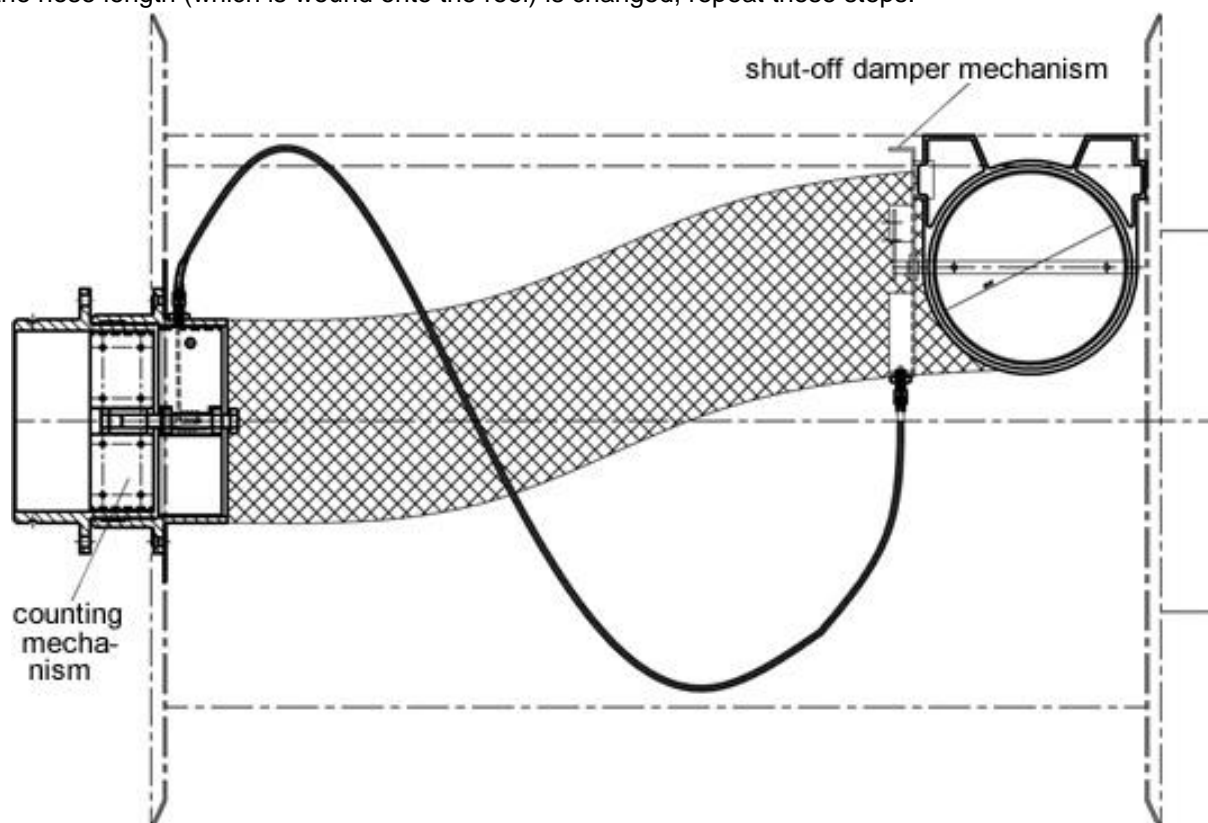
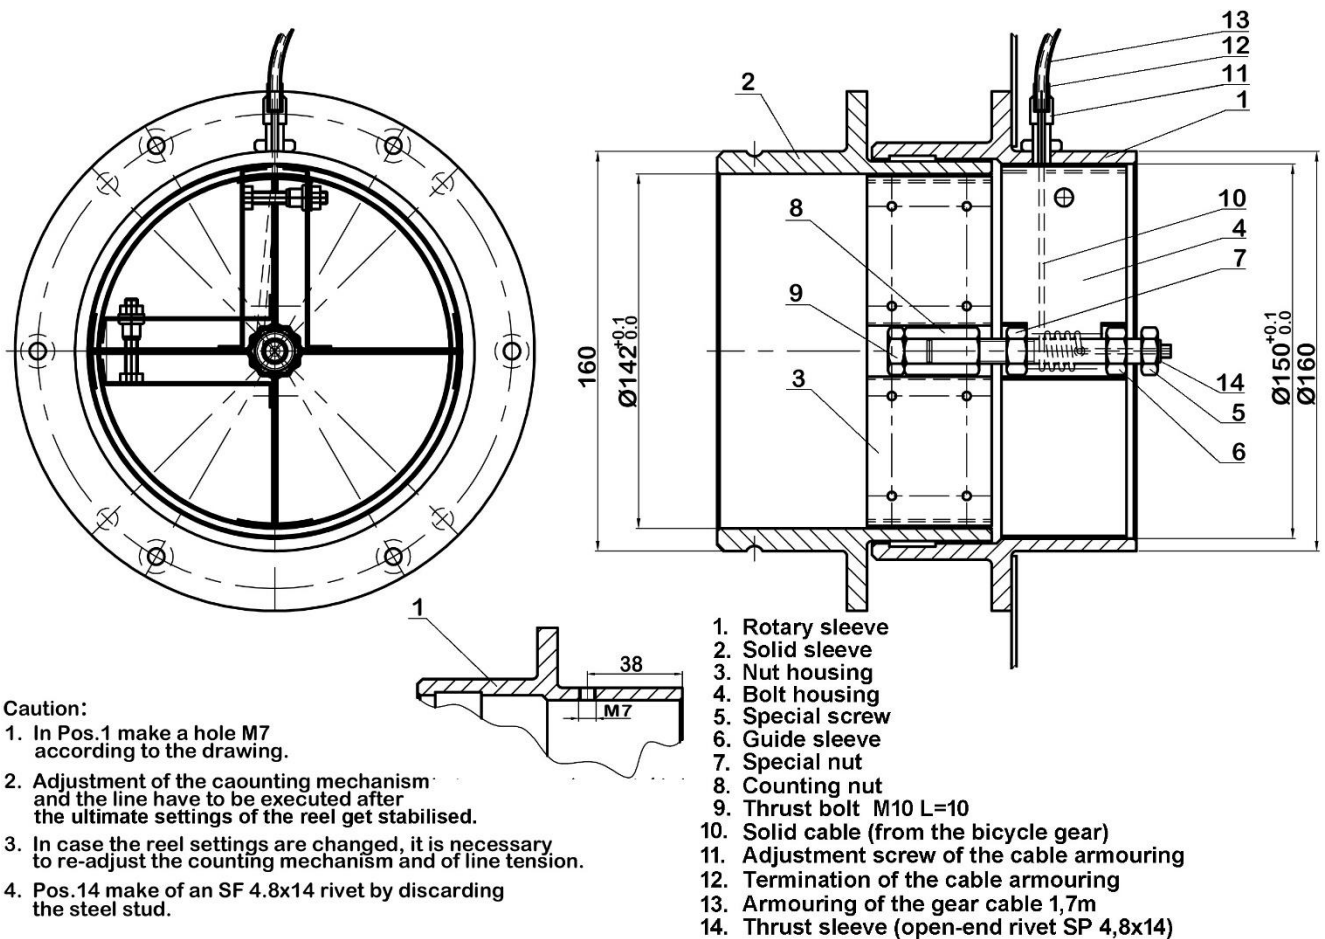
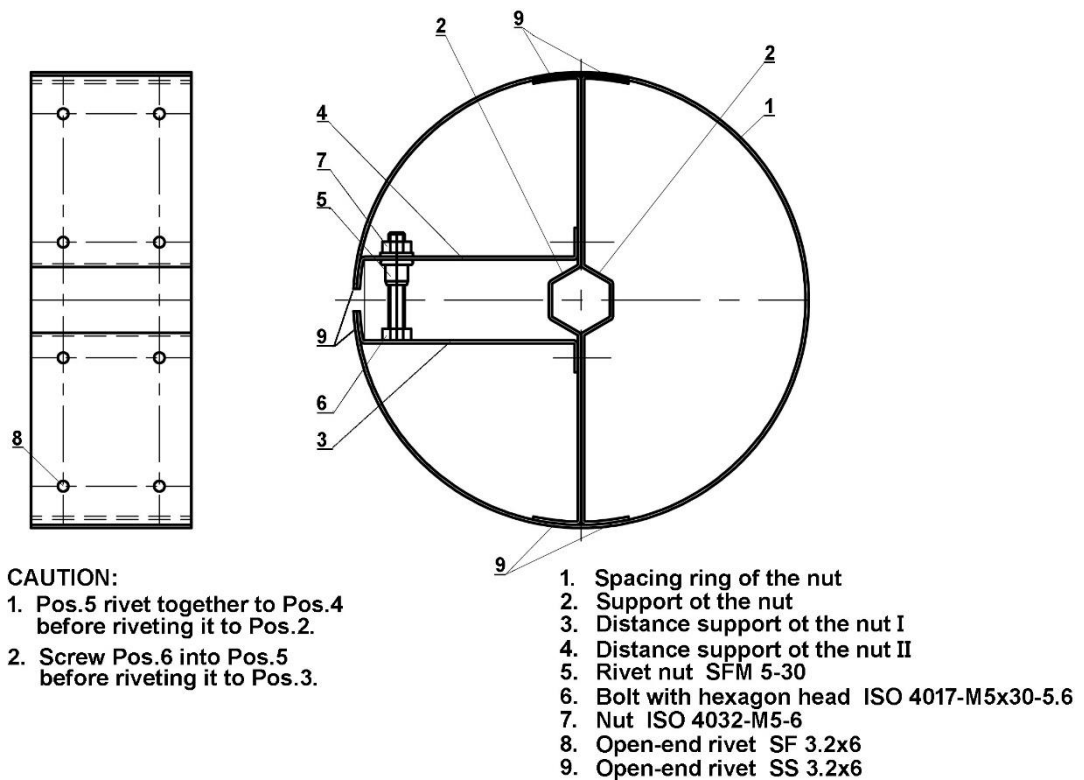

Fig. No.4 – Shut-off damper with the tensioning line
Fig. No.5 – Counting mechanism
Fig. No.6 – Nut housing
Once the reel is blocked from rotation, from the side of the counting mechanism (pos.1 Fig. No.4) pull out the nut housing (pos.3 Fig. No.5) after releasing the nut (pos.7 Fig. No.6) and screwing in the bolt (pos.6 Fig. No.6). Having pulled out the nut housing (pos.3 Fig. No.5); you can change the tension of the winding spring by turning the reel in direction of “hose wind down”.
2. screw on the nut Pos.8 along with the bolt Pos.9 until resistance – onto the bolt Pos.5 Fig. No.5
3. Fasten the housing of the counting nut Pos.3 – so that it sleeves onto the counting nut Pos.8 Fig.No.5 – until the position as in the drawing
4. block the nut housing – by screwing out the bolt Pos.6 Fig. No.6 – and subsequently, block this with a nut Pos.7 Fig. No.6.